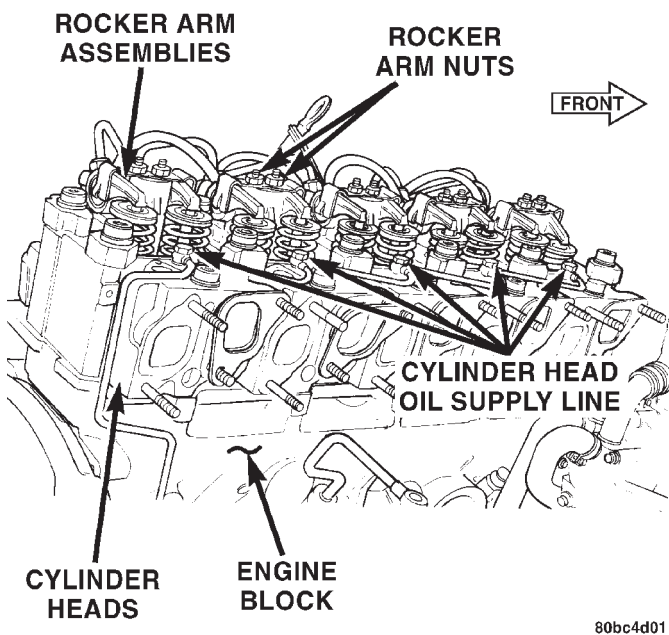
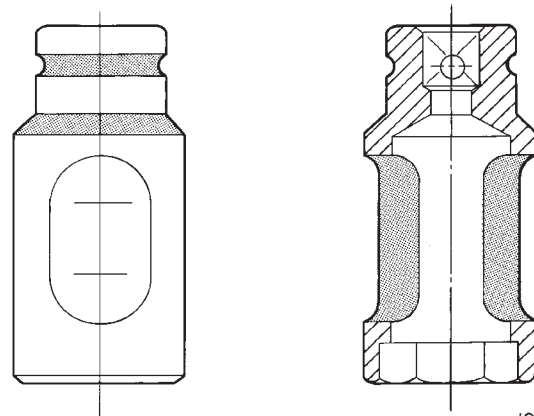

Fig. 60 Rocker Arm Oil Feed Lines
Fig. 61 Fuel Injector Tool VM.1012
- (23) Remove the oil feed line for rocker arm assemblies (Fig. 60).
- (24) Remove the Crankcase breather hose from front of the valve cover
- (25) Remove the injector sensor wire and the glow plug hot lead .
- (26) Remove the fuel injector supply lines from injectors.
- (27) Remove the fuel injectors with tool VM.1012 (Fig. 61). Refer to Group 14, Fuel System for procedure.
- (28) Remove the cylinder head cover. Refer to cylinder head cover removal and installation procedure in this section.